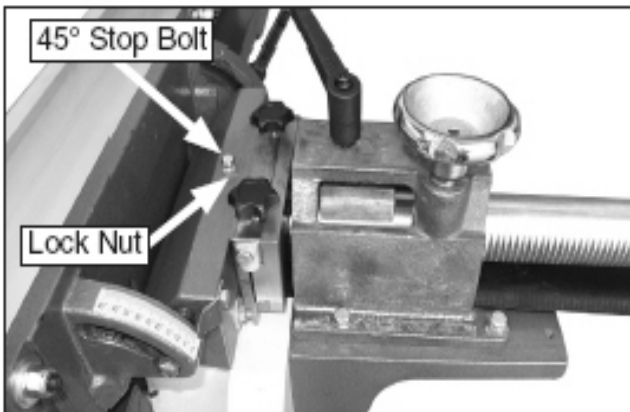

Figure 50. Adjusting fence 45° outward.
2. Loosen the lock nut on the 45° fence stop bolt (**Figure 50**).